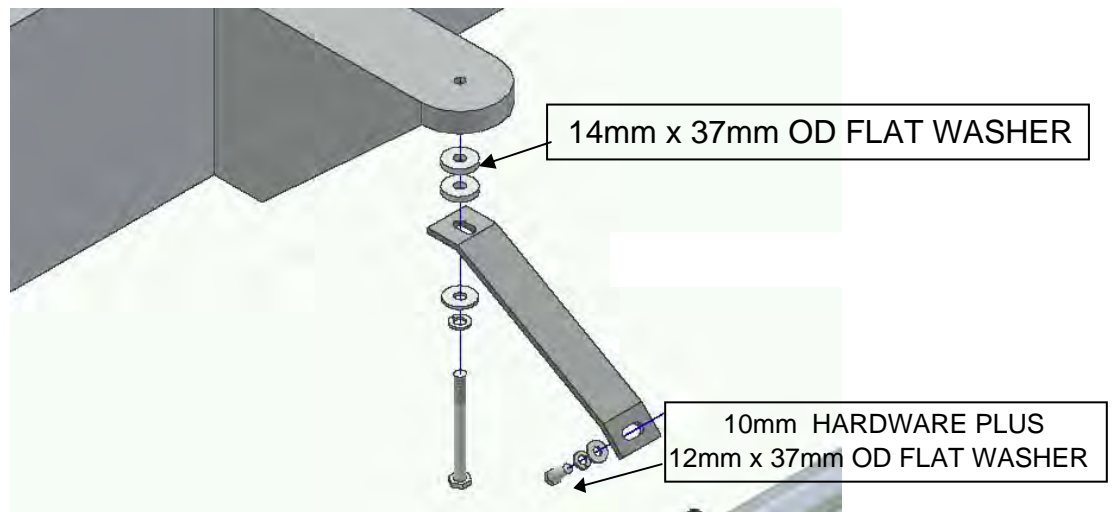
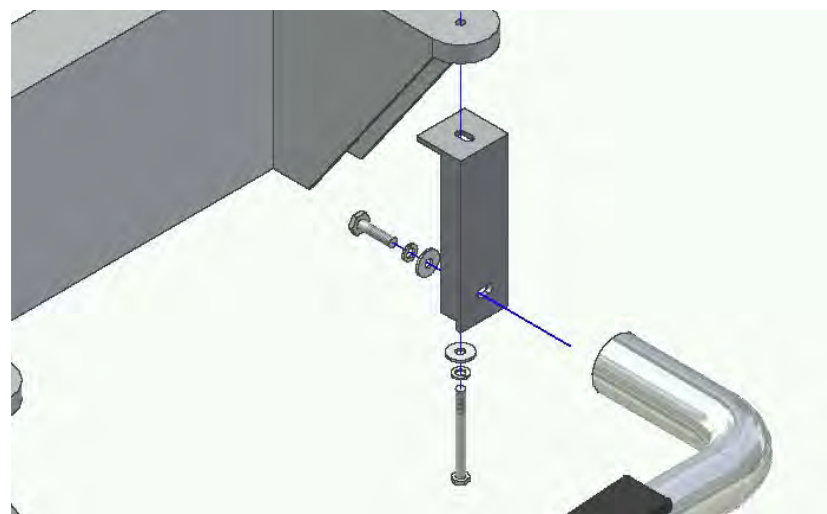

Figure 1.3 – Center Brace
Figure 1.4 – Rear Bracket
3. Attach and secure Rear Mount Bracket to underside of vehicles rear body mount as shown in Figure 1.4, in the same manner as the front. Repeat for Center Brace, but insert (2) 16mm x 37mm OD spacer washers between Center Brace and center body mount (see Figure 1.3).
4. Attach Side Tube to Front and Rear Brackets using (1) 12mm x 50mm bolt, (1) 14mm lock washer and (1) 14mm flat washer for each bracket, and hand tighten. Fasten Center Brace to Side Tube using (1) 10mm x 25mm bolt, (1) 10mm split lock washer, and 12mm x 22mm OD flat washer (used due to hole size on bracket). Adjust Side Tube so that it is level and centered, tighten all bolts to complete the driver-side assembly.